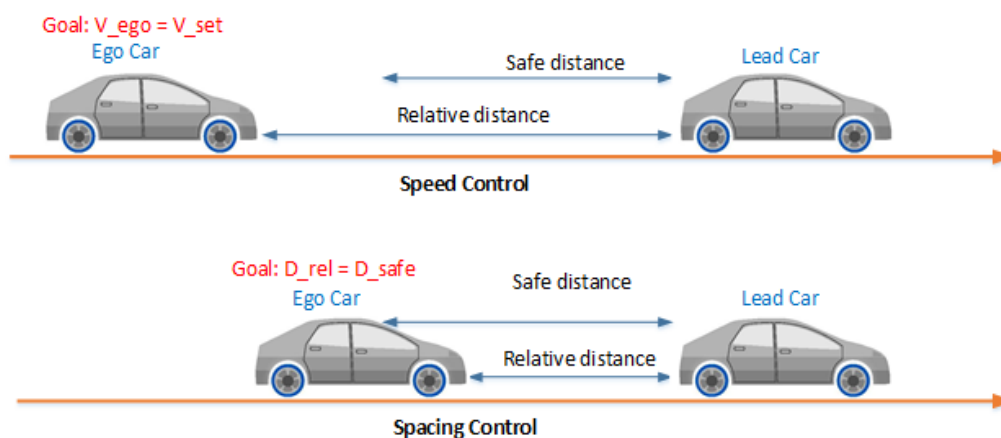

Fig. 1: Schematic of speed and distance control principles in adaptive cruise control
- Have you seen how adaptive cruise control can keep a car within a safe distance from the car ahead no matter how fast or slow they drive (see Fig. 1)?